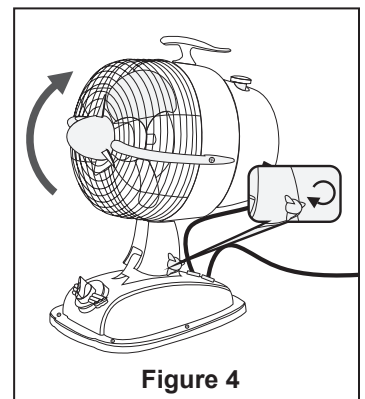

Figure 4
4. Turn the tilt angle adjusting knob on the fan's neck to the left on loosen and hold the fan head to adjust up and down to the desired tilt angle. Turn tilt angle adjusting knob to the right to tighten the fan head once your fan is at the desired tilt angle. (Figure 4)